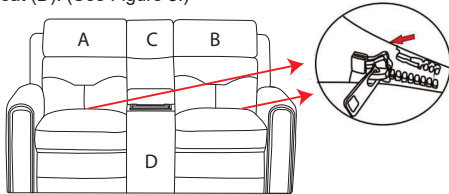

Figure 3
Zip the fabric on the bottom of the Backs (A B) with the back of the Seat (D). (See Figure 3.)